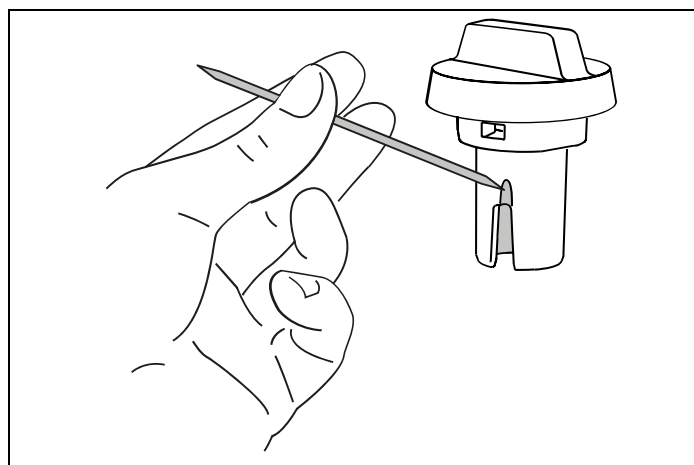

Fig. 53
- Wash all the components of the frother thoroughly with hot water and mild washing-up liquid. All components and the container are dishwasher safe, placing them in the top basket of the dishwasher. Pay particular attention to check in the hollow and groove under the dial (Fig. 53) that no milk residues remain: scrape any residue from the groove with a toothpick.